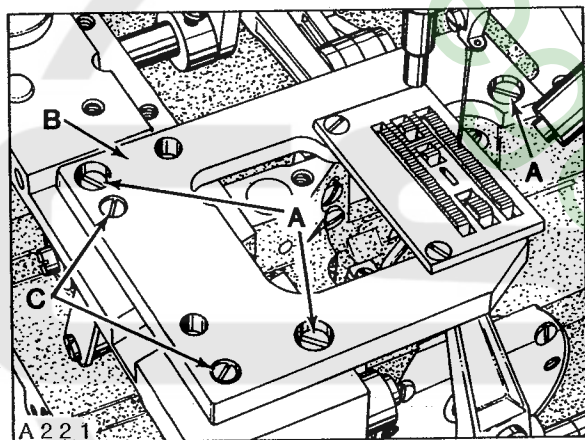

Fig. 15
Feed dog should be centered in throat plate with equal clearance on both sides and ends. At highest point of travel, feed dog teeth should extend the depth of a tooth or approximately 3/64 inch (1.2mm) above throat plate. MINOR (right to left) adjustments can be made by loosening three screws (A, Fig. 15) in throat plate support (B). Loosen two screws (C) which secure two locating ferrules used to align throat plate support. Reposition slightly as required considering both needle hole slot/s and feed dog slots. Tighten screws (C) first, then screws (A).